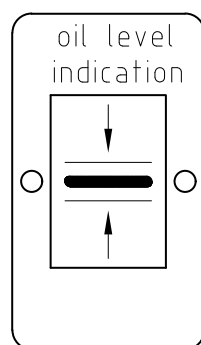

Figure 6: Oil level indication.
- 5 See the indication plate (see figure 6) for the right oil level.